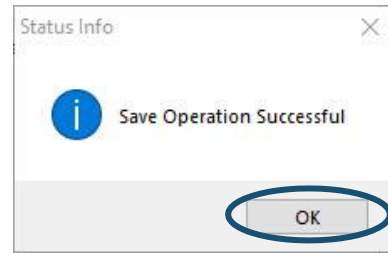

Figure 43: Click OK on the Status Info screen
- f. Click **OK** when a **Status Info** screen displays that the configuration upload completed successfully (refer to Figure 43).